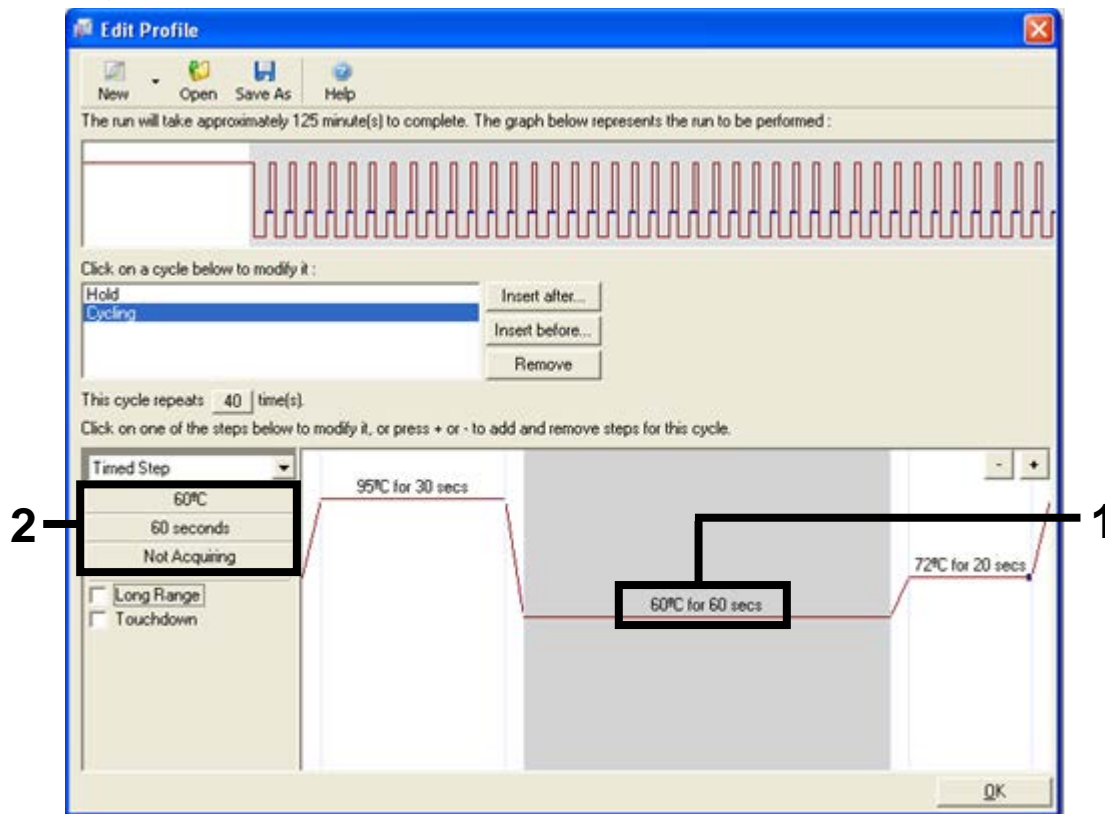

Figure 15. Cycling step at 60°C. 1 = Temperature and time parameter of second step of cycle, 2 = Temperature and time length of second step of cycle.
9. Highlight the second step and set to 60°C for 60 secs. Enable data acquisition during this step by selecting the “Not Acquiring” button (Figure 15).